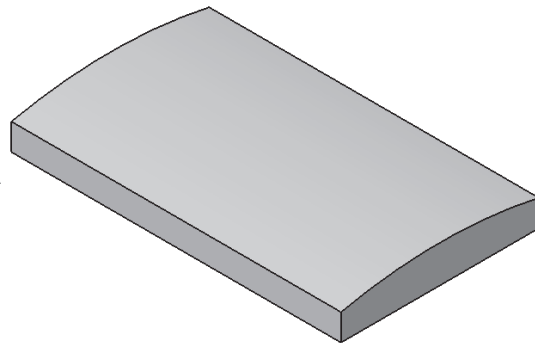

Figure 6-90 The model after creating the base feature
4. Select the **Mirrored extent** check box and choose the **OK** button from the **Pad Definition** dialog box. The model, after creating the base feature, is shown in Figure 6-90.